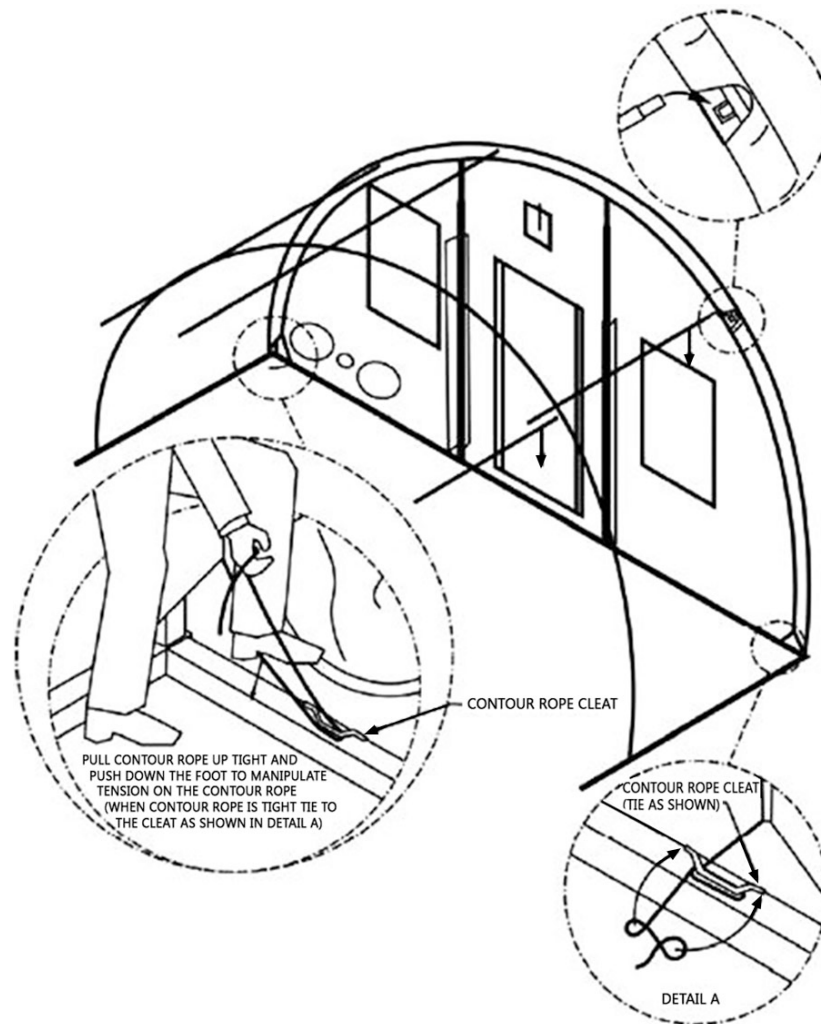

Figure 2-18. End panel installation.
3. Temporarily remove the purlins from the end arch only and lift the end panel up to work the contoured edge up and over the end arch (fig. 2-18). Starting at the center purlin and working towards the sides, slip the end cover rope under the purlins and reattach the purlins to the end arch.